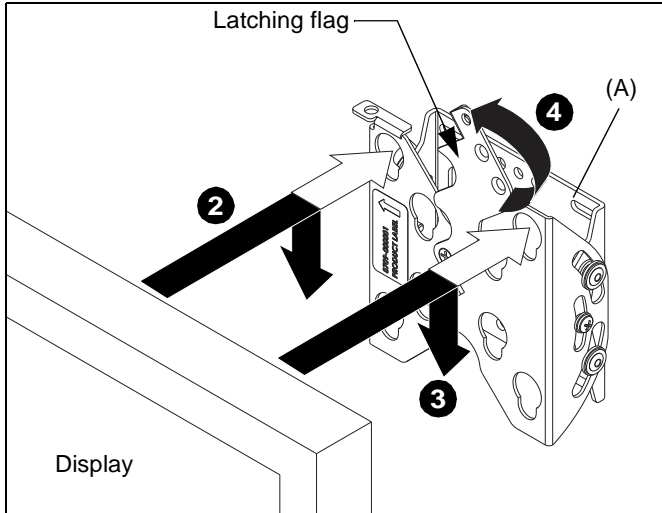

Figure 7
2. Lift and maneuver display such that all mounting buttons fit into openings on FTR1U/FTR100 assembly (A). (See Figure 7)
3. Lower display firmly into place. Ensure each mounting button has fully seated in the opening. (See Figure 7)
4. Close latching flag by rotating flag counterclockwise on FTR1U/FTR100 assembly (A). (See Figure 7)